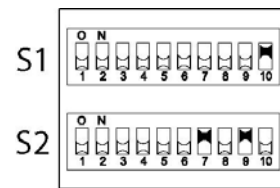

Fig. 21
1. Switch the following DIL switches on switch block S2 to the ON position. (fig. 21).